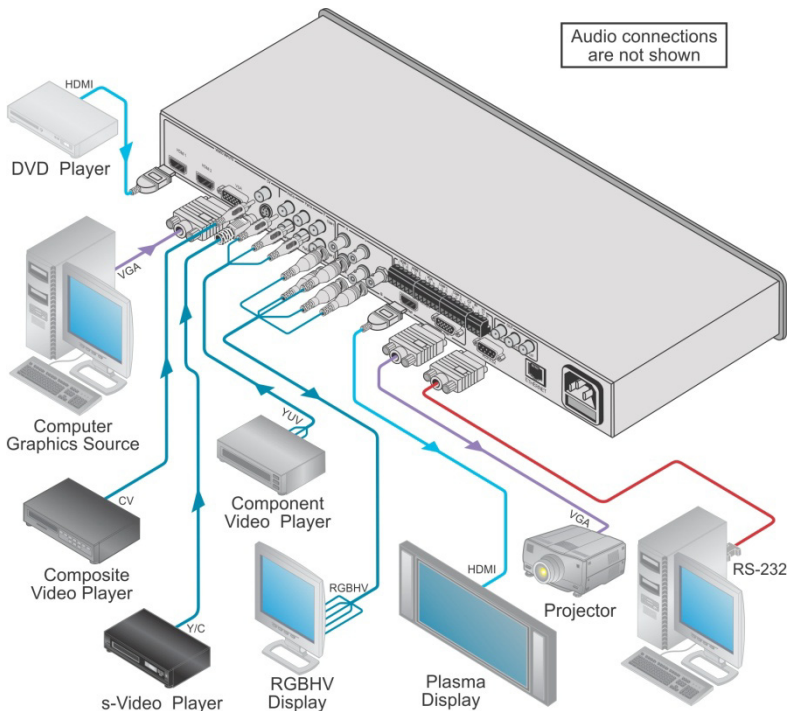

Figure 3: Connecting the VP-437N Presentation Switcher / Scaler
To connect your **VP-437N**, as illustrated in the example in Figure 3, do the following:
6. Connect the audio input signals to the AUDIO IN terminal block connectors, as required (not shown in Figure 3).
10. Connect the audio output signals to the OUT stereo analog audio acceptor and/or the digital audio acceptor, as required (not shown in Figure 3).
11. Connect the power cord (not shown in Figure 3).